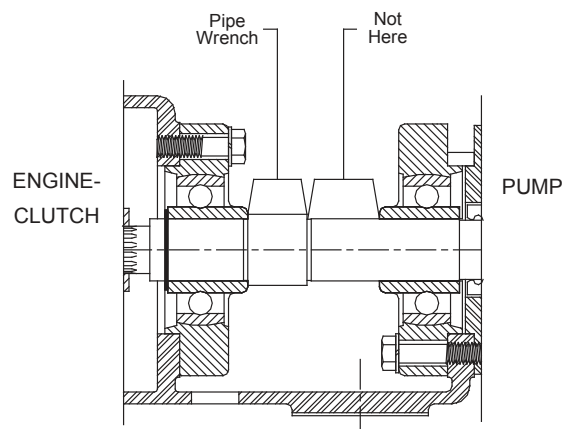

FIGURE 7
1. To clean pump impeller (3), loosen the two victaulic pipe clamps and remove the suction pipe assembly. The eye of the impeller can then be seen through the suction cover plate (1) and is readily accessible for cleaning.
2. For further access to the impeller, remove the eight bolts (5B) holding the cover plate (1) in place. Remove suction cover plate, being careful not to damage the O-Ring gasket (2).
3. To remove the impeller take the impeller wrench, which is stored in the tool box, and position it so the hole is aligned with any of the eight tapped holes in the front of the pump casing (5). The 90° leg of the wrench should face in towards the impeller and be positioned between any two of the impeller fins. Bolt the wrench securely in place with one of the suction cover plate bolts (5B). Using a pipe wrench on the shaft (9) (See Figure 7 below), unscrew the impeller turning the shaft in a clockwise direction. Be careful not to unscrew the impeller too far before removing the pullerwrench.